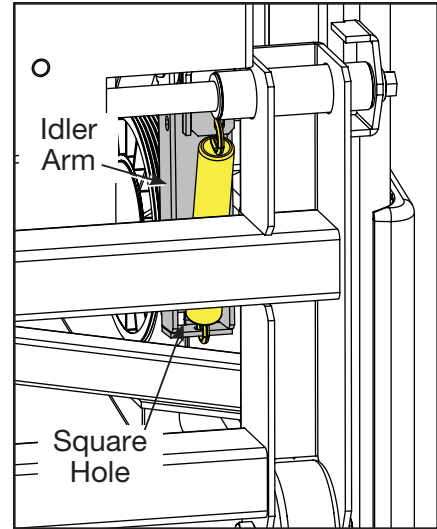

Figure 10
- A. Release drive belt tension by placing a Phillips head screwdriver into the square hole located in the bottom of the idler pulley assembly. See Figure 10.